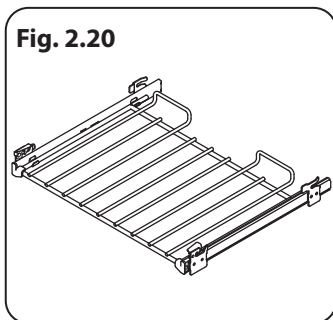

Fig. 2.20
- 1 telescopic shelf with runners (**Fig. 2.20**)